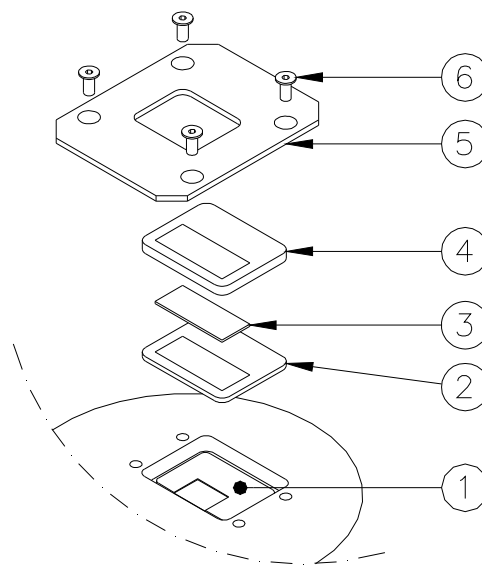

Figure 28 - Filter Replacement
- remove the mounting plate (Figure 28- n°5) and the filter holder (Figure 28- n°2-3-4)
- place a new filter (Figure 28- n°3) inside the filter holder (Figure 28- n°2-3-4)
- position the filter holder in the relevant seat (Figure 28- n°1)
- position the mounting plate (Figure 28 – n°5) and fasten it with the relevant screws TORX M5x12 (Figure 28 – n°6), tightening torque is 2.5 Nm